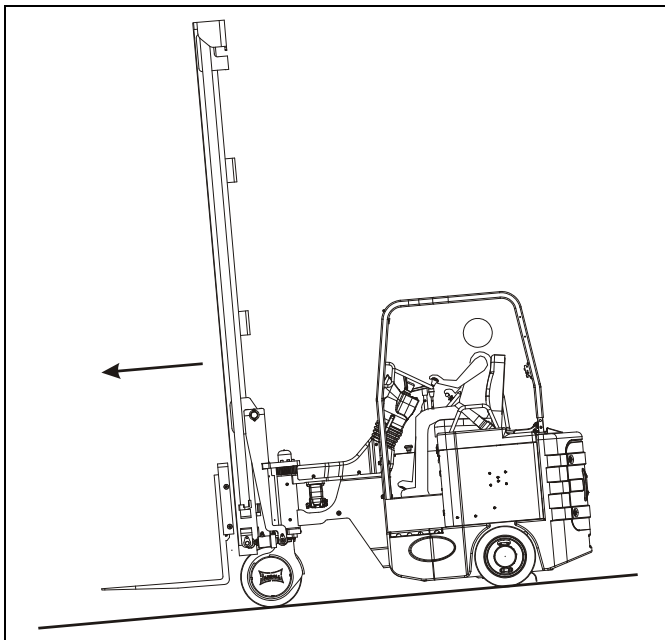

Figure 4-19: Traveling Down an Incline
- If you are not carrying a load, travel with the forks facing uphill when you are going up the incline and face the forks downhill when you are traveling down an incline. See Figure 4-19.